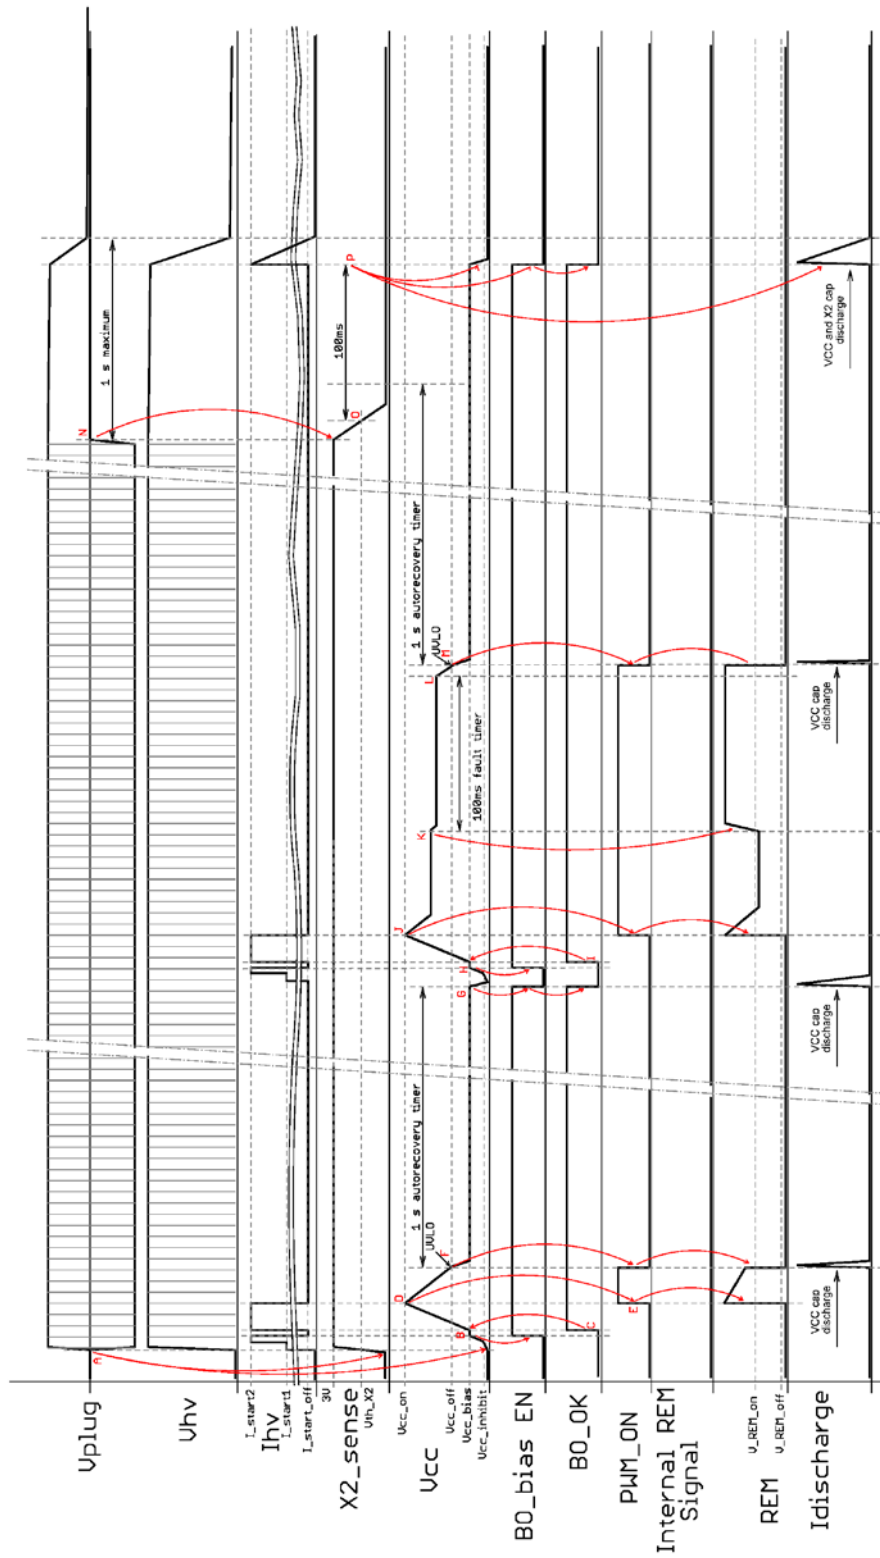

Figure 54. IC Operation Sequencing – Case 4 (Active OFF)
4. *Application start into short circuit, auto-recovery restart, overloads then AC line off – Figure 54:*